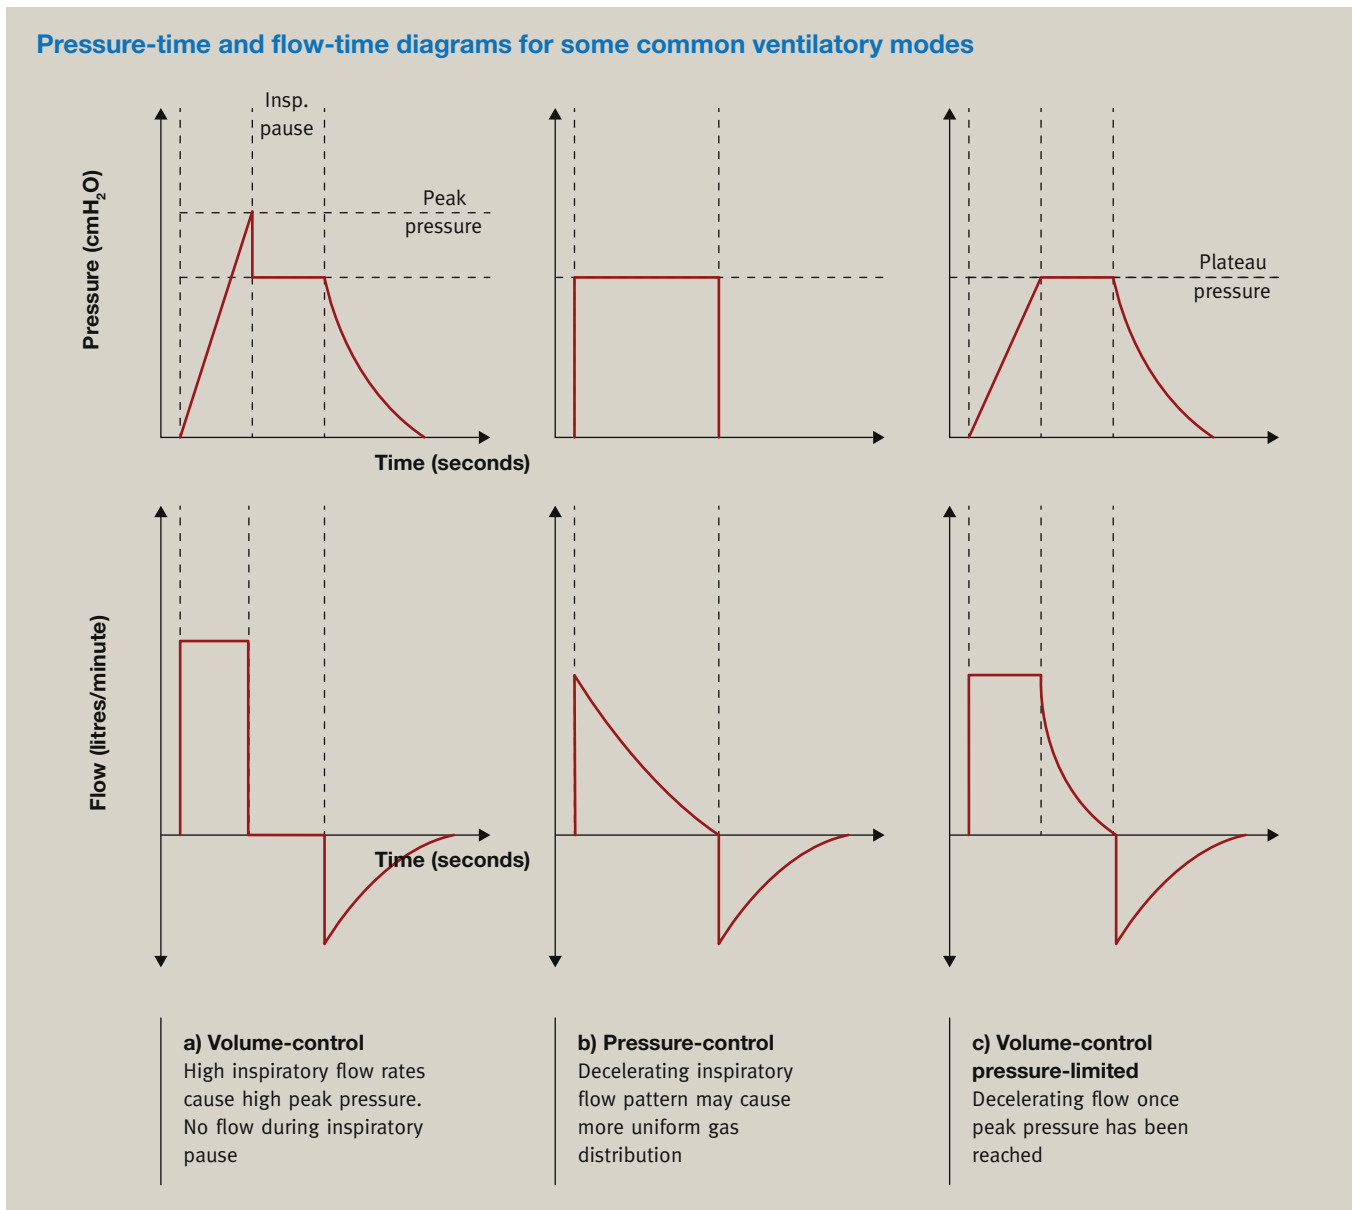

Figure 1
**In essence:** in a pressure generator, pressure is fixed, flow rate and  $V_T$  are the dependent variables. In a flow generator, flow rate (and therefore  $V_T$ ) is fixed, and airway pressure is the dependent variable (Figure 1).